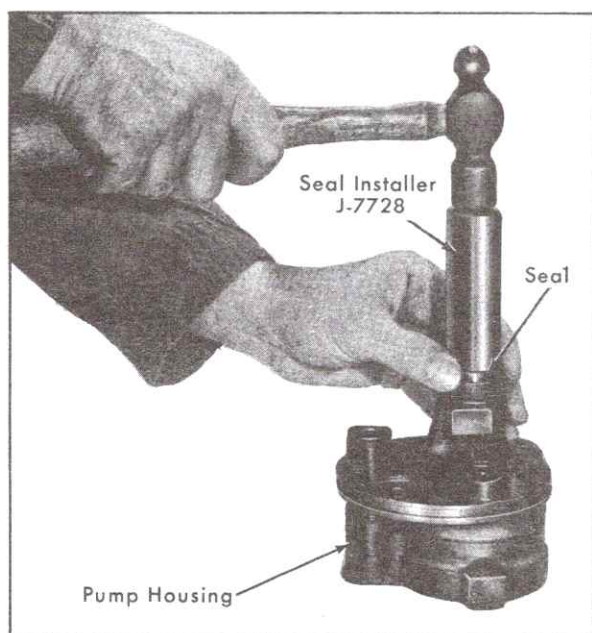

Fig. 9-16 Installing Pump Shaft Seal
2. If drive shaft seal was previously removed, lubricate new shaft seal with power steering fluid and install in housing with metal backing up. Use Seal Installer, J-7728, Fig. 9-16.